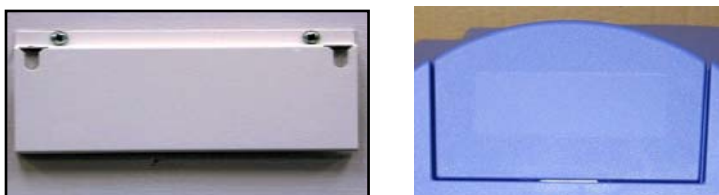

Figure 3-6. Control Panel Accessories:
10. Wall Bracket -Remote Display (BC1190X10), shown in Figure 3-6.
12. Blank Display (DL1190X18), shown in Figure 3-6.